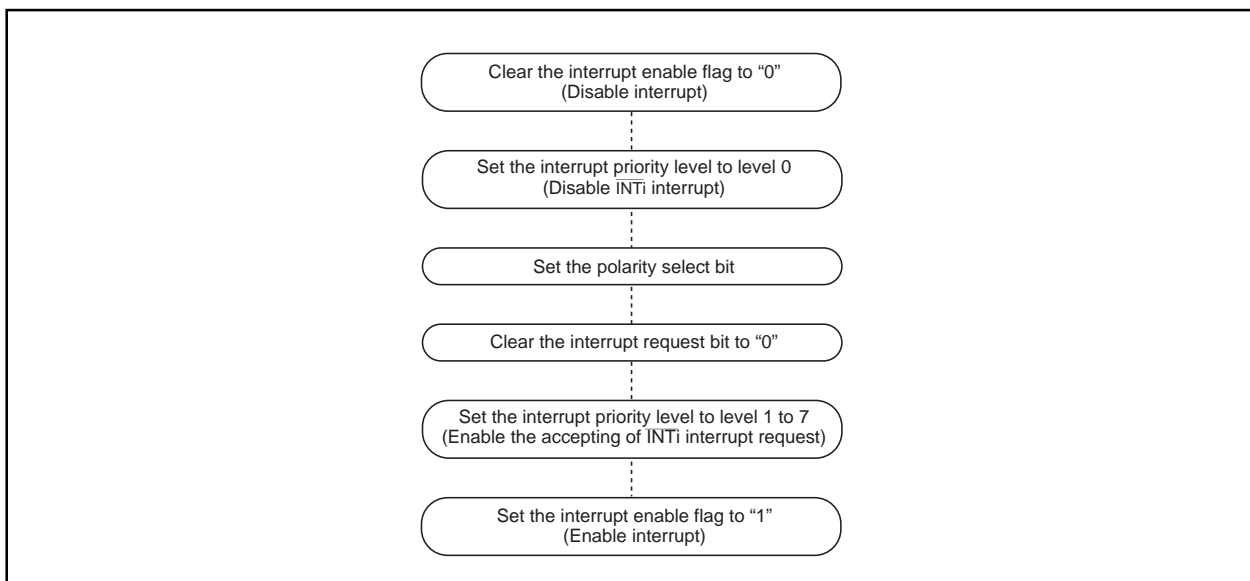

Figure 1.10.17. Switching condition of INT interrupt request
(3) The $\overline{\text{NMI}}$ interrupt
(4) External interrupt
- When the polarity of the $\overline{\text{INT}}_0$ to $\overline{\text{INT}}_5$ pins is changed, the interrupt request bit is sometimes set to "1". After changing the polarity, set the interrupt request bit to "0". Figure 1.10.17 shows the procedure for changing the $\overline{\text{INT}}$ interrupt generate factor.